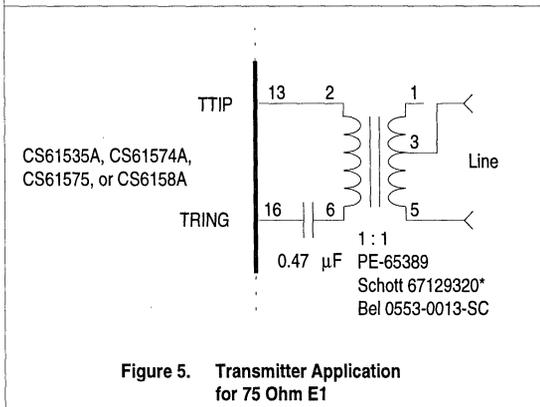

Figure 5. Transmitter Application for 75 Ohm E1
4. Refer to Figure 5 for 75 Ohm E1 transmitter application circuit.